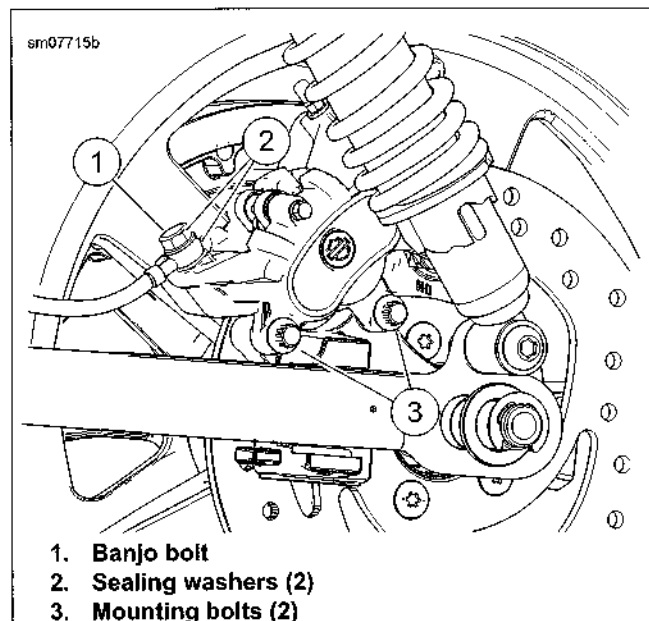

Figure 2-71. Rear Brake Caliper
4. See Figure 2-71. Remove banjo bolt (1) and sealing washers (2). Discard sealing washers.
5. Remove brake caliper mounting bolts (3) and caliper.